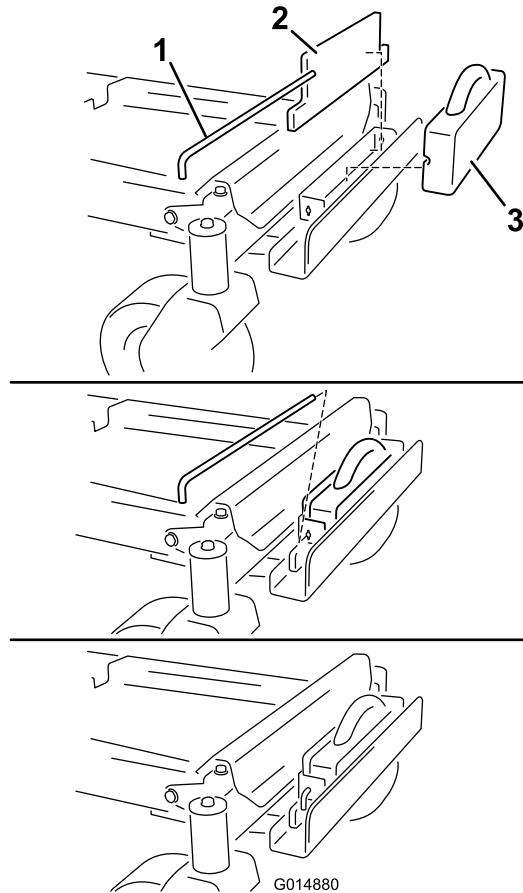

Figure 9
- Install a flat weight to the weight bracket and move it rearward, flush with the bracket (Figure 9).
- Install a suitcase weight in front of the flat weight (Figure 9).
- Secure the weights to the weight bracket with a keyed-cross bar (Figure 9). Install the bar and rotate it 90 degrees downward to lock it in place.